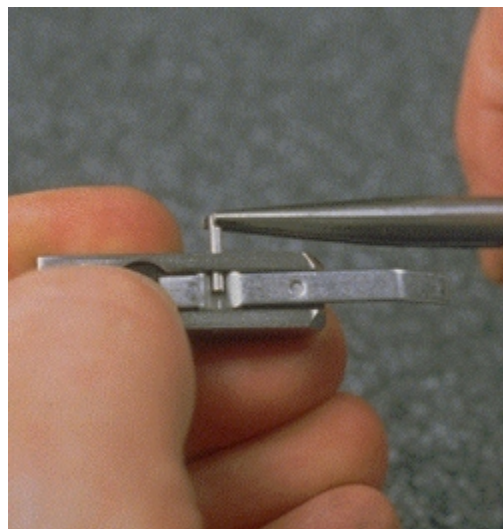

Fig. 8
- B. Using a drift pin punch with a point diameter of 1/16", gently drive out the pin(14) with a small ballpeen hammer, rapping lightly on the punch until the pin has exited. If the pin(14) will not exit completely, grasp the portion extruding, using needle nose pliers, and pull it straight out. (Fig. 8) Discard, and DO NOT attempt to reuse.